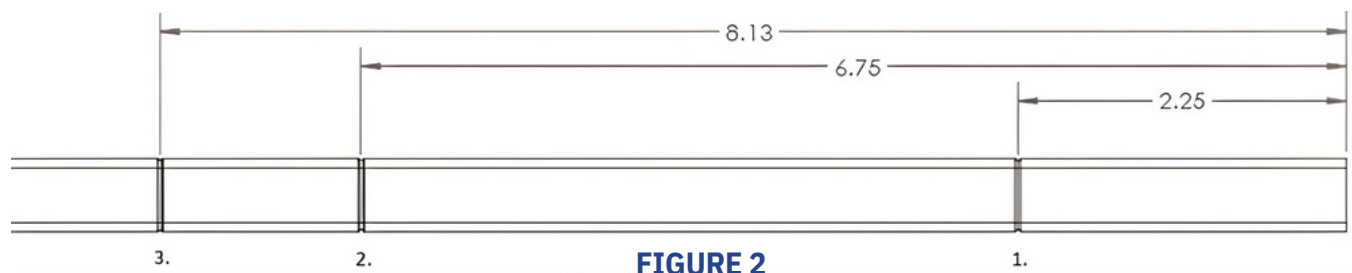

FIGURE 2
3. The liquid withdrawal tube (the longer of the two plastic tubes) has 3 scores (Figure 2)
10. Attach the snap of the safety cable to the ring on the LWD (see figure 2 next page).